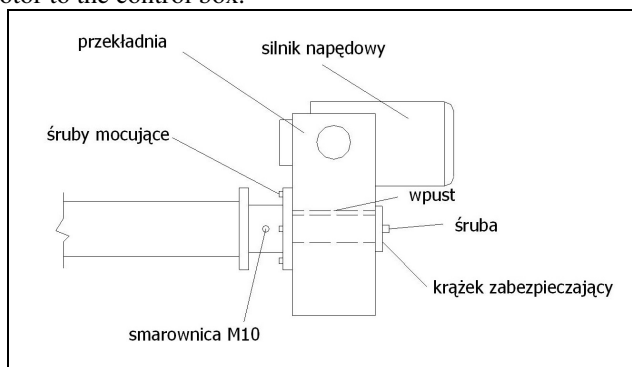

Fig.6 Installation of the system driving feeder
3. To other end of the feeder connect the gear unit with motor (fig 6):